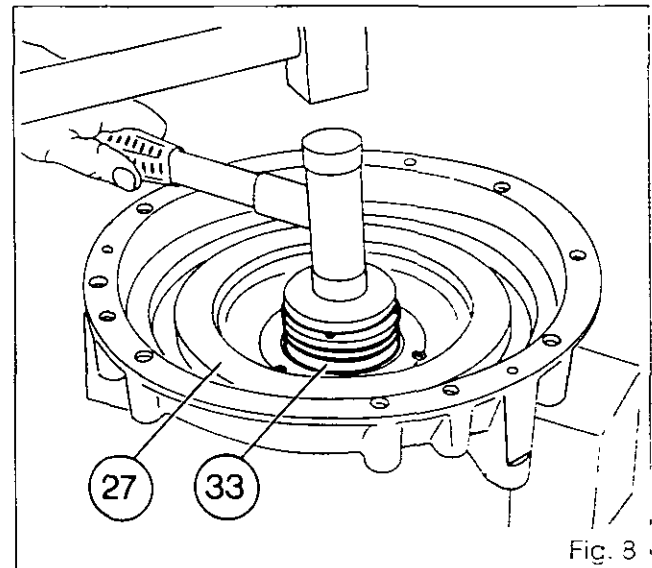

Fig. 8
16. Withdraw the release bearing from the slave cylinder for a distance of approx. 40 mm (Fig.8 - 5 B01), take off the bellows.
19. Remove seals (22) and (23) and discard them.
22. Take out needle-roller bearing (32) and discard it.
23. Drive ring carrier (33) out of cover (27) (Fig.8) (Work from the rear of the ring carrier using a plastic-faced mallet as a drift).